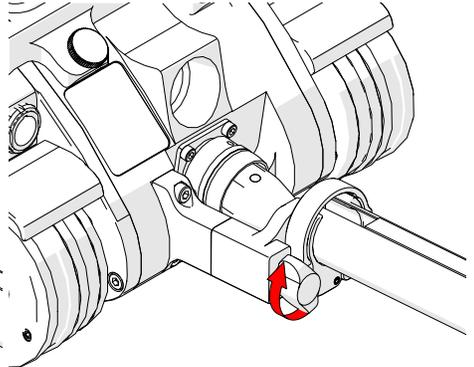

Fig. 199 - Tighten wing knob
2. Tighten the cable management clamp wing knob (Fig. 199).